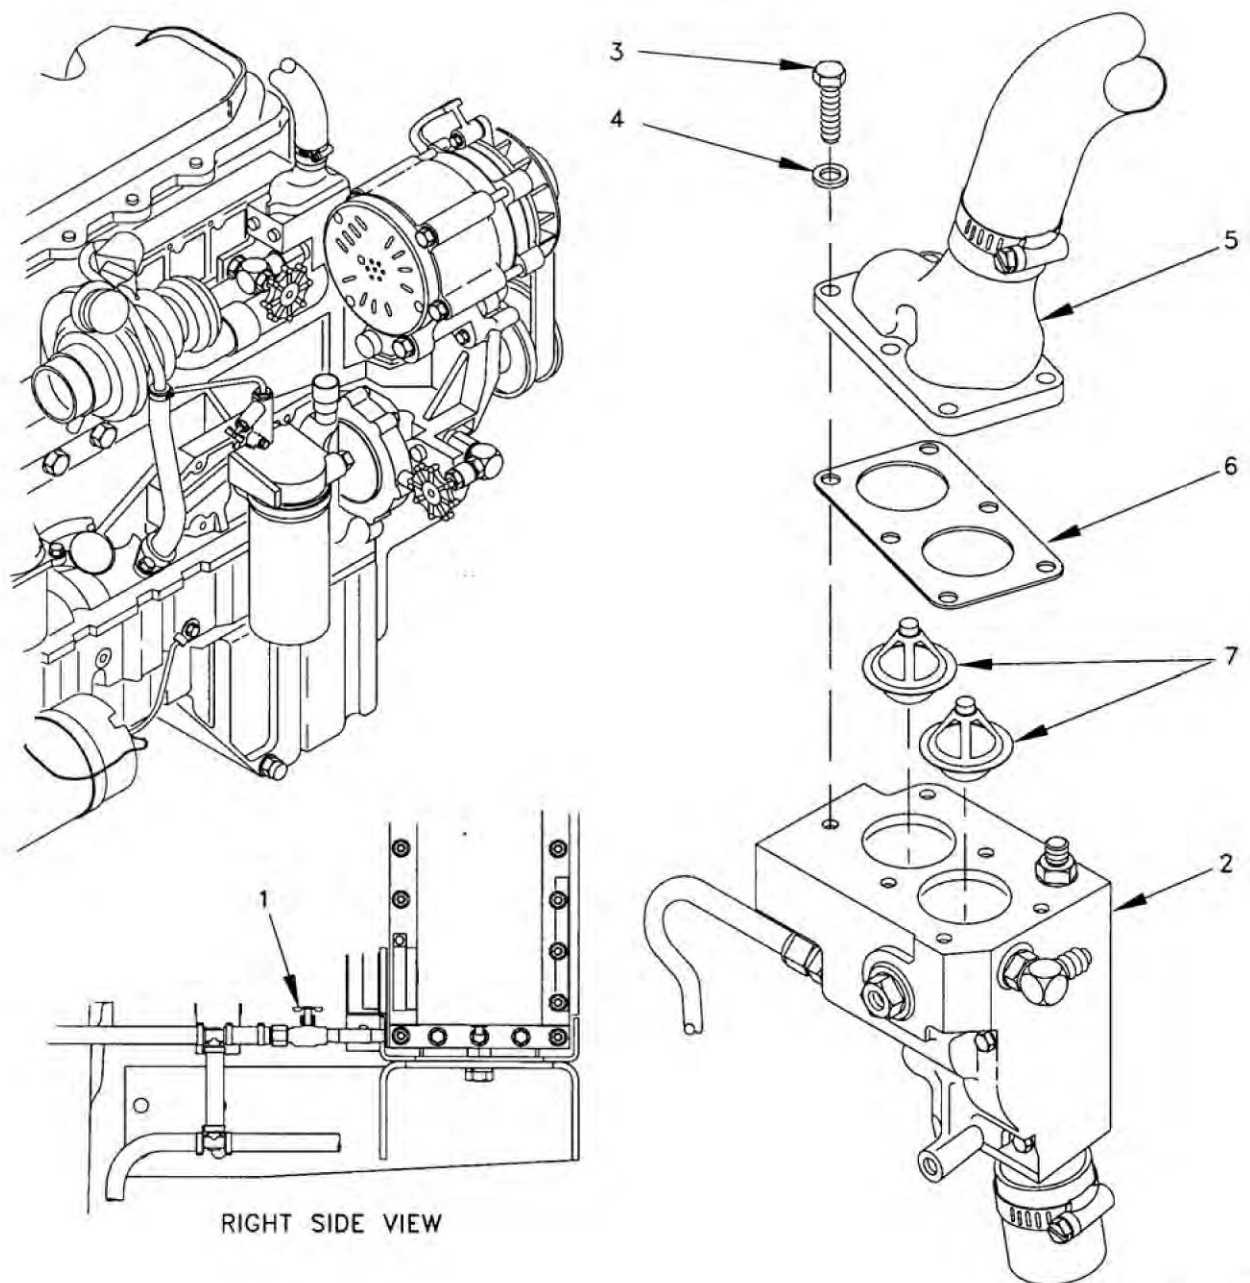

Figure 1. Thermostat.
4. Open coolant drain valve (Figure 1, Item 1), located below and to the right rear of the radiator. Drain 8-10 quarts (7.5-9.5 L) of coolant into drain pan. Save coolant for refilling.
5. Place several rags under thermostat housing (Figure 1, Item 2) to soak up spills.
6. Remove six screws (Figure 1, Item 3), washers (Figure 1, Item 4), thermostat elbow (Figure 1, Item 5), and gasket (Figure 1, Item 6) from thermostat housing (Figure 1, Item 2). Discard gasket.
7. Remove two thermostats (Figure 1, Item 7) from thermostat housing (Figure 1, Item 2).
8. Scrape gasket debris from thermostat housing (Figure 1, Item 2) and thermostat elbow (Figure 1, Item 5).
1. Apply sealing compound to gasket contact surface of thermostat housing (Figure 1, Item 2).
2. Position gasket (Figure 1, Item 6) on thermostat housing (Figure 1, Item 2).
3. Install two thermostats (Figure 1, Item 7), short end up, on thermostat housing (Figure 1, Item 2).
4. Apply sealing compound to mating surface of thermostat elbow (Figure 1, Item 5).
5. Install thermostat elbow (Figure 1, Item 5) on thermostat housing (Figure 1, Item 2) and secure with six washers (Figure 1, Item 4) and screws (Figure 1, Item 3). Tighten screws evenly.
6. Close coolant drain valve (Figure 1, Item 1).